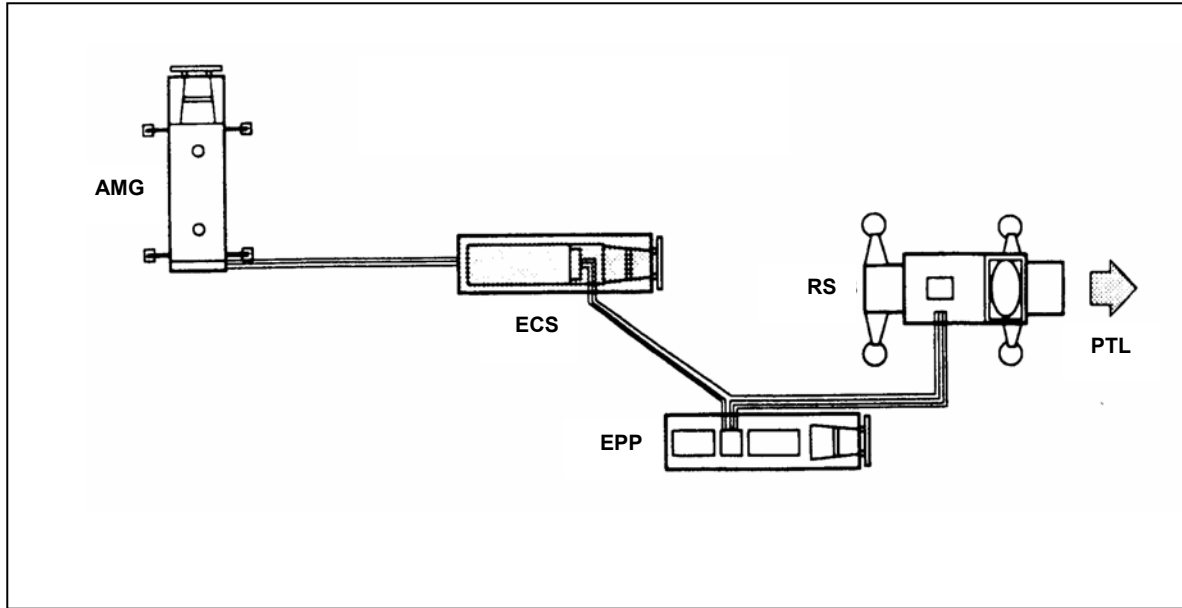

Figure 2-3. RS Emplacement
**ILLUSTRATIONS:** Figures 2-3 through 2-6.
- (1) Radar set.
- (2) Telephone set, sound-powered TA-1/PT.
- (3) Screw driver, flat tip, 3/8 inches wide, 8 inches long.
- (4) EPP, ECS, and AMG.
- (5) Individual weapons, NBC protective clothing, and equipment.
(1) Show the crew members how the RS should be emplaced using a diagram, Figures 2-3 through 2-6, a sand table, or a simple sketch in the dirt.
(2) Tell the crew members what their duties are in the drill.
(3) Read the performance measures of the drill to the crew members.
(4) Have crew members explain their performance measures to ensure they understand them.